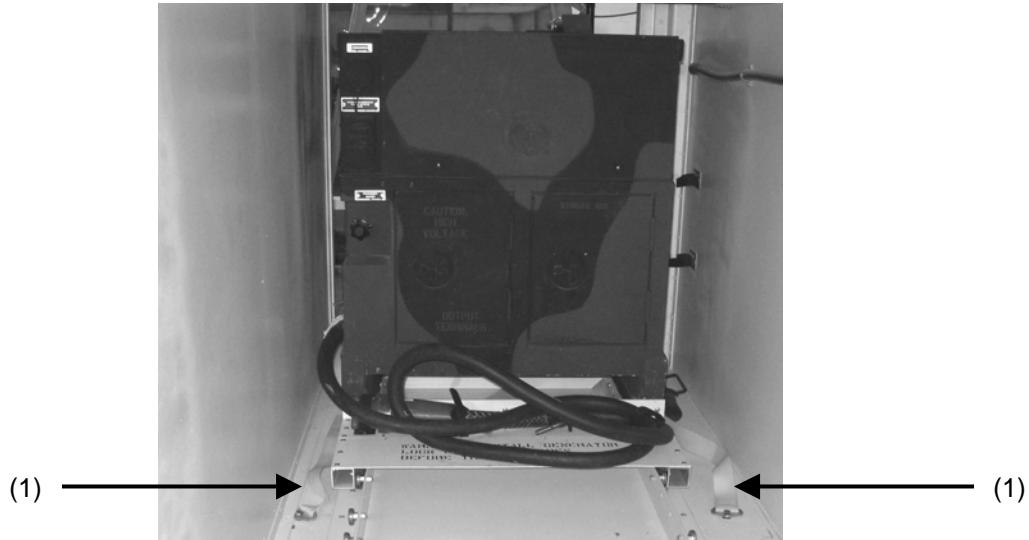

Figure 4-17. Generator in mechanical room.
6. Using a 9/16" wrench (WP 0058 00, SATS Base Tool Component List), remove bolt securing safety straps (1) to mechanical room floor (Fig. 4-17).
10. Replace bolt securing safety straps (1) from generator to mechanical room floor (Fig. 4-17).